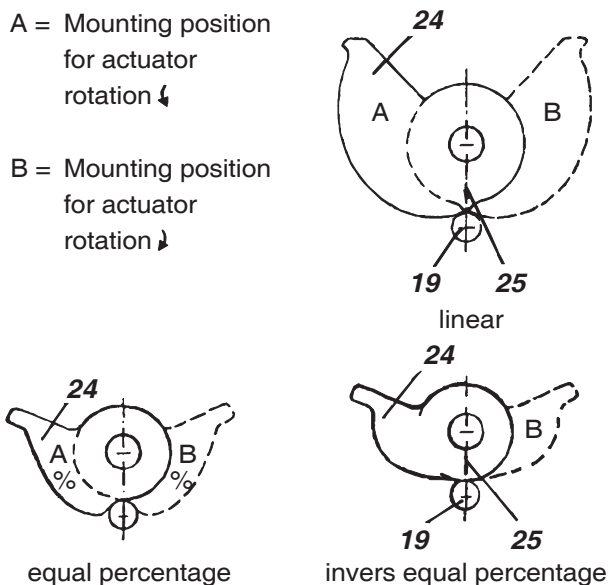
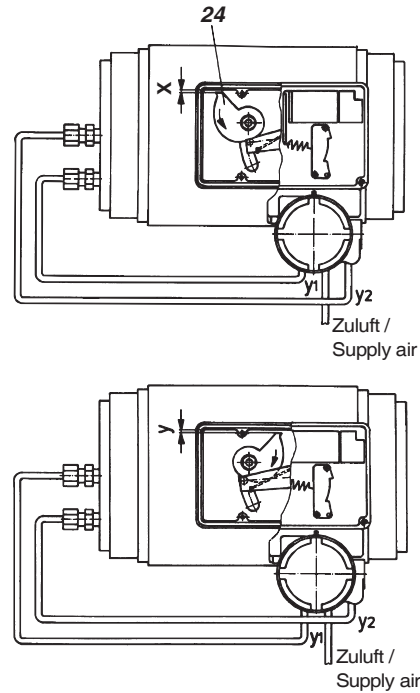

Fig.15: Mounting position of the cams
Fig.16: Rotary actuator with attachment kit for rotary movement and double-acting positioner
- d) Mount cam **24** in accordance with the direction of rotation of the actuator (see Fig. 15). The linear cam is fastened to the actuator drive shaft in such a manner that the dimension x or y (Fig. 16) amounts to 2 mm, whereas in case of equal percentage cam the dimension x is approx. 17.5 mm, and the dimension y is approx. 21.5 mm. In case of inverse equal percentage cam the dimension x is approx. 18 mm, and the dimension y is approx. 23 mm.
Screw positioner to housing of attachment kit. With the linear cam and the inverse equal percentage cam check whether mark **25** points to the center of the cam follower **19** (see Fig. 15); adjust if necessary.
exchange positioner outputs (see Fig. 16) and reverse cam. The changeover plate **50** (see page 23) remains in 'N' setting.